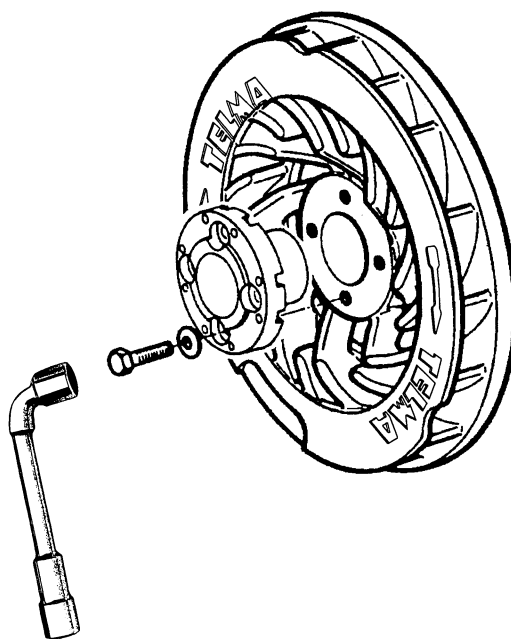

FIGURE 13
- b) the correct tightening of the coupling flange screws on the rotors (Fig. 13)